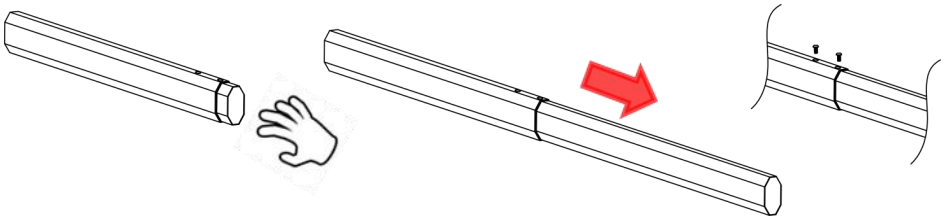

Figure 1 Connect the main boom with vice together by 2 screws
- 1) Pull the vice boom out from the main boom, then fastened by 2 screws, as shown in Figure 1.